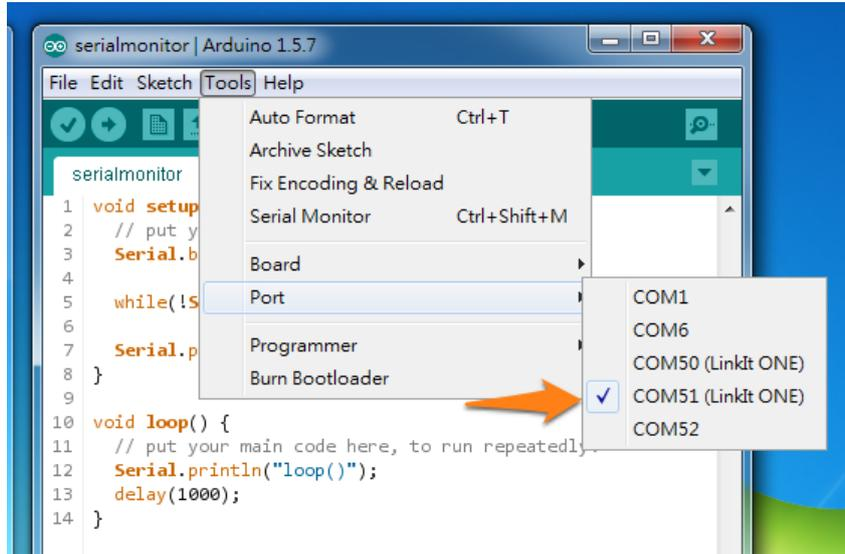

Figure 18 Setting the port number for Serial Monitor
- 2) In The Arduino IDE on the **Tools** menu and point to **Port** and click the **COMnn (LinkIt ONE)** item, as shown in Figure 18, corresponding to the port number identified in **Device Manager**.